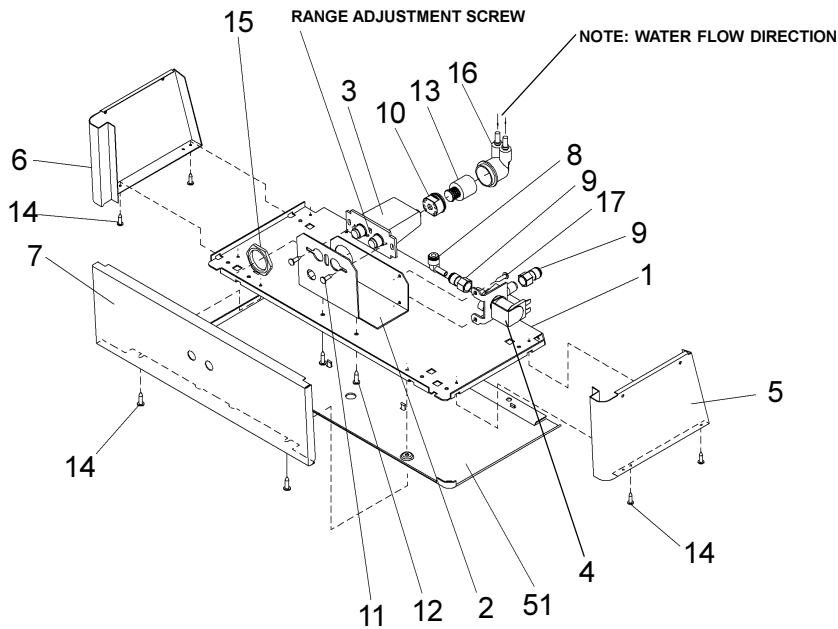

FIG. 3
**See Fig. 3 (on Page 3)
- b. Using a small tip screwdriver, rotate range adjustment screw clockwise to increase range and counter-clockwise to decrease range. (See Fig. 3).
- 8) Stream height is factory set at 45-50 PSI. If supply pressure varies greatly from this, readjust stream height to approximately 1-1/2" (38mm) above the bubbler guard by turning adjustment screw, accessible by removing front panel, Item No. 7 (see Fig. 3 & 5).
- 9) Replace the front panel and secure by retightening four (4) screws.